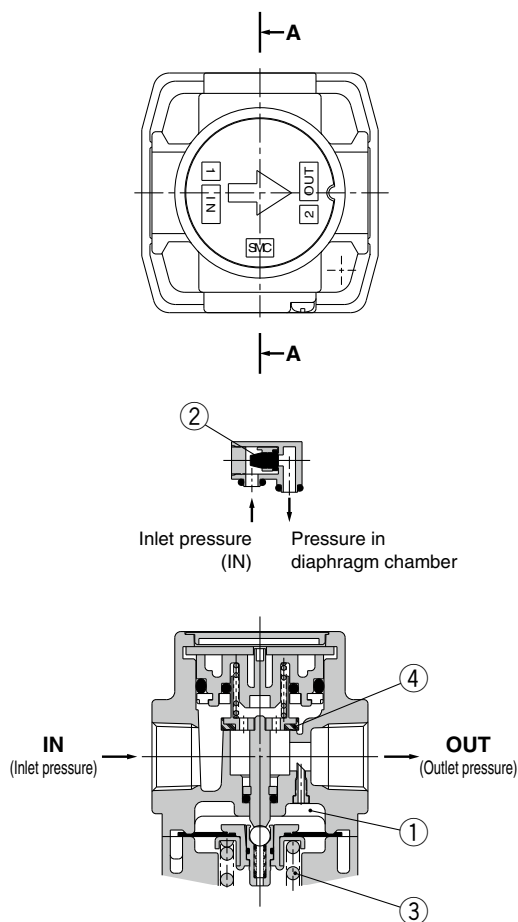

Figure 1 Normal
When the inlet pressure is higher than the regulating pressure, the check valve ② closes and operates as a normal regulator (Figure 1). When the inlet pressure is shut off and released, the check valve ② opens and the pressure in the diaphragm chamber ① is released into the inlet side (Figure 2).